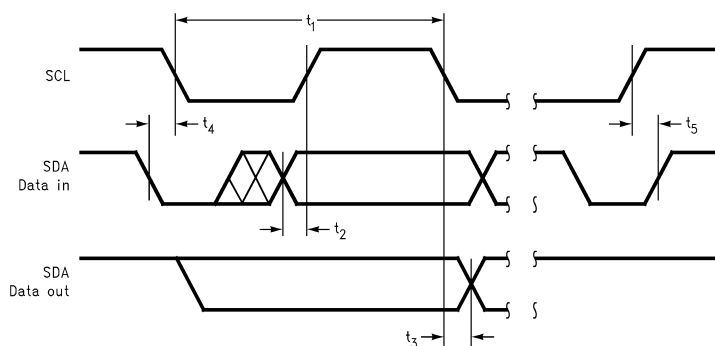

Figure 32. I²C Timing Diagram
- (1) "Absolute Maximum Ratings" indicate limits beyond which damage to the device may occur, including inoperability and degradation of device reliability and/or performance. Functional operation of the device and/or non-degradation at the *Absolute Maximum Ratings* or other conditions beyond those indicated in the *Recommended Operating Conditions* is not implied. The *Recommended Operating Conditions* indicate conditions at which the device is functional and the device should not be operated beyond such conditions. All voltages are measured with respect to the ground pin, unless otherwise specified
- (2) The *Electrical Characteristics* tables list ensured specifications under the listed *Recommended Operating Conditions* except as otherwise modified or specified by the *Electrical Characteristics Conditions* and/or Notes. Typical specifications are estimations only and are not ensured.
- (3) Human body model, applicable std. JESD22-A114C.
- (4) Datasheet min/max specification limits are ensured by test or statistical analysis.
- (5) Refer to the I²C timing diagram, Figure 32.
- (3) Typical values represent most likely parametric norms at $T_A = +25^\circ C$, and at the *Recommended Operation Conditions* at the time of product characterization and are not ensured.
The LM49200 is controlled through an I²C compatible serial interface that consists of a serial data line (SDA) and a serial clock (SCL). The clock line is uni-directional. The data line is bi-directional (open drain). The LM49200 and the master can communicate at clock rates up to 400kHz. Figure 32 shows the I²C interface timing diagram. Data on the SDA line must be stable during the HIGH period of SCL. The LM49200 is a transmit/receive slave-only device, reliant upon the master to generate the SCL signal. Each transmission sequence is framed by a START condition and a STOP condition (Figure 33). Each data word, device address and data, transmitted over the bus is 8 bits long and is always followed by an acknowledge pulse (Figure 34). The LM49200 device address is 11111000.